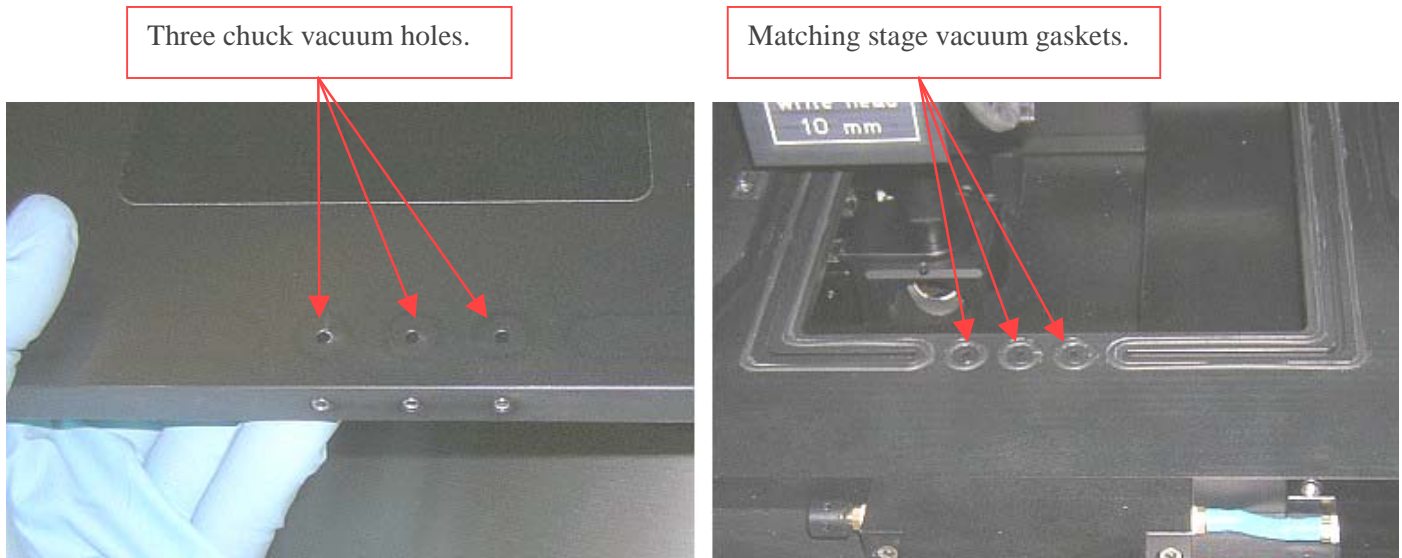

Figure 2-18: Chuck and stage vacuum holes
- ❖ **System:** Slide in the new chuck such that the three holes in the chuck align with the three holes in the stage (figure 2-18).